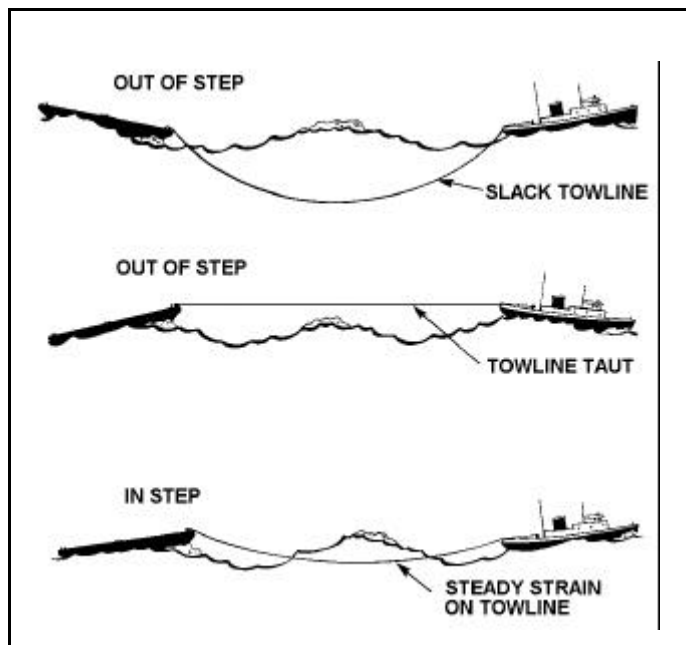

Figure 2-6. Tow Riding In/Out of Step
- Observes how the tow is riding (Figure 2-6, page 2-10) and reports any unusual conditions to the bridge.